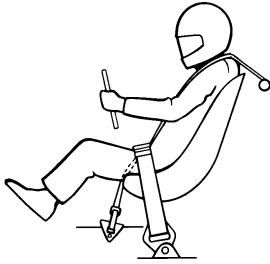
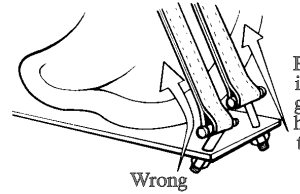

Figure 5: Safety Harness Mounting showing Correct Shoulder, Lap, and Crotch Strap Locations.
Figure 6: Safety Harness Mounting Hardware showing Correct Angle that will Sustain Maximum Load.
All vehicles except Motorcycles and ATV's must have a heavy-duty type five-point fast release (*no push button or quick release type*) seat belt and shoulder harness with metal-to-metal buckles and connectors for each occupant. The single anti-submarine strap of the five-point system shall be attached to the floor structure as close to the front of the seat as practical so that it will exert maximum restraint to the upward movement of the belt and harness, see Figure 5 and Figure 6. The five-point system consists of a 3" seat belt, a 2" anti-submarine belt, and two 3" shoulder straps. No "Y" type shoulder belts. All belts must show manufacturer's name, month, and year of manufacture. All belts must be changed after three (3) years of date of manufacture. SCORE recommends all belts be changed after one (1) year of use. No surplus safety harnesses are allowed.
Shoulder harness should be mounted behind the driver/co-driver. The recommended mounting point is approximately 4" below top of shoulder. Lap belts should be kept at a minimum at least 2.5" forward of seat and backrest intersection, see Figure 5 and Figure 6. All belts must be mounted directly to a main structure member of the same size specification as the roll cage and with gussets. All adjustment buckles should be kept at a minimum distance of 1.5" from the seat to prevent accidental loosening or chafing.